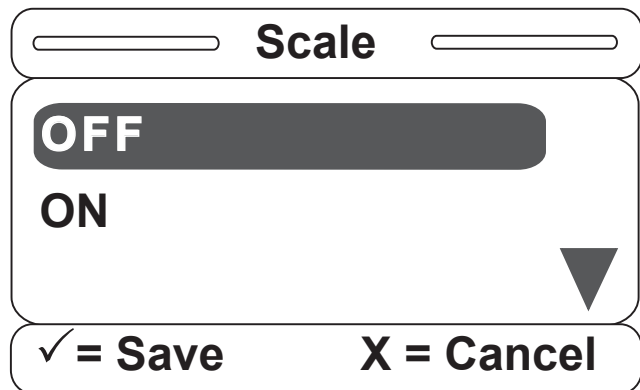

Figure S-9
9. Once the Scale item is selected, the screen in Figure S-9 will be displayed. You can set the Scale option to ON or OFF. Hit “Enter” on the footboard panel to make your selection or hit “Exit” to cancel.